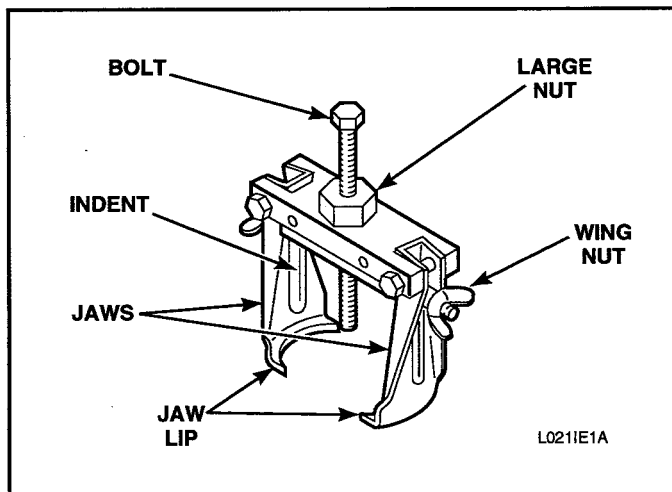

Figure 5-9
- Back bolt out of 294P4 Drive Bell Tool approximately three quarters of the way. See Figure 5-9.